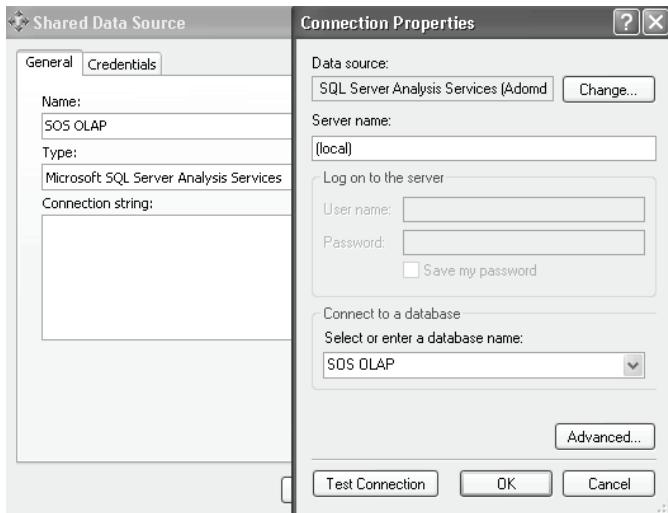

Figure 18.4 Use the Microsoft SQL Server Analysis Services extension to connect to UDM.
4. Set up the Connection Properties dialog as shown in Figure 18.4 and click OK to close the dialog. Back to the Shared Data Source dialog, click OK to create the SOS OLAP data source.